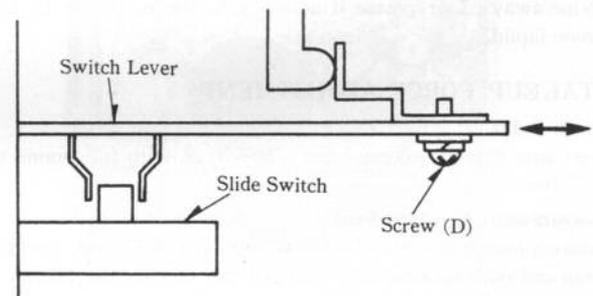

Fig. 13
Adjust the stroke of the switch lever by screw (D) so that the check point is satisfied. (See Fig. 13.)